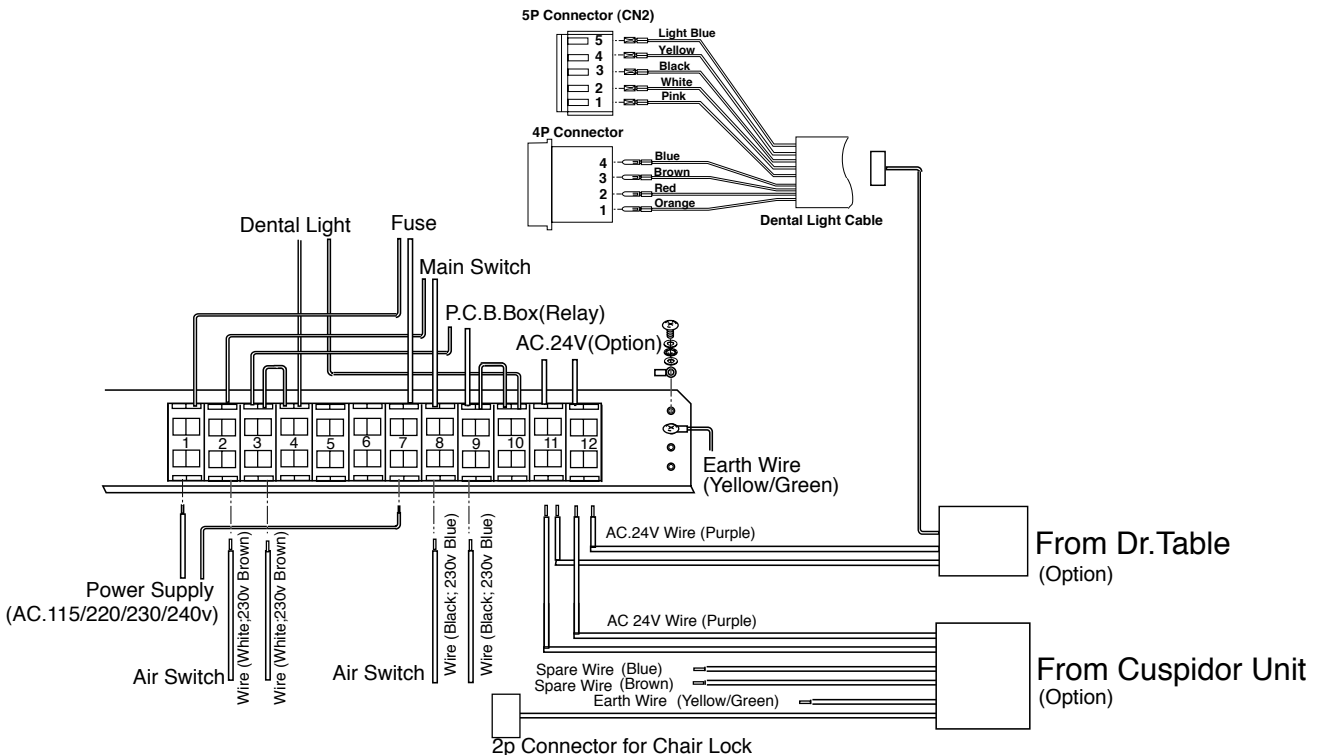

Fig.3-5-4 Connection Wires to Electric Terminal Block
(5) Connection Wires to Electric Terminal Block (Fig.3-5-4)